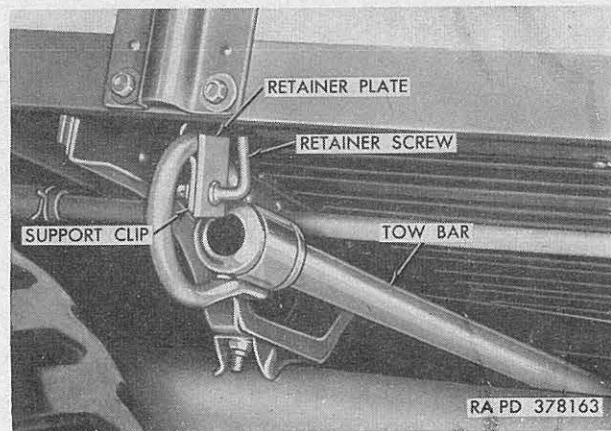

Figure 92. Tow bar stowed.
(1) *Removal.* Loosen retainer screw (fig. 92), turn long end of retainer plate down, pull eye of tow bar off support clip, and pull bar out of socket of tow bar support bracket (fig. 93) on left side of vehicle.
(2) *Installation.* Working at right side of vehicle, push rear end of tow bar under platform and into socket of tow bar support bracket (fig. 93) under left edge of platform. Position front end of tow bar (fig. 92) on tow bar support clip under right edge of platform, turn long end of retainer plate up as shown and secure by tightening retainer screw.